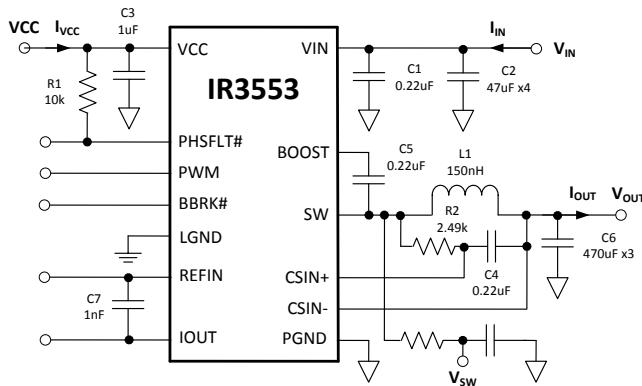

Figure 32: IR3553 Power Loss Measurement
Circuit of Figure 32, $V_{IN}=12V$, $V_{OUT}=1.2V$, $f_{SW} = 400kHz$, $L=150nH$ (0.29mΩ), $V_{CC}=7V$, $T_{AMBIENT} = 25^{\circ}C$, no heat sink, no air flow, 8-layer PCB board of 3.7" (L) x 2.6" (W), no PWM controller loss, no inductor loss, unless specified otherwise.
Circuit of Figure 32, $V_{IN}=12V$, $V_{OUT}=1.2V$, $f_{SW} = 400kHz$, $L=150nH$ ($0.29m\Omega$), $V_{CC}=7V$, $T_{AMBIENT} = 25^{\circ}C$, no heat sink, no air flow, 8-layer PCB board of 3.7" (L) x 2.6" (W), no PWM controller loss, no inductor loss, unless specified otherwise.
Circuit of Figure 32, $V_{IN}=12V$, $V_{OUT}=1.2V$, $f_{SW} = 400kHz$, $L=150nH$ (0.29mΩ), $VCC=7V$, $T_{AMBIENT} = 25^{\circ}C$, no heat sink, no air flow, 8-layer PCB board of 3.7" (L) x 2.6" (W), no PWM controller loss, no inductor loss, unless specified otherwise.